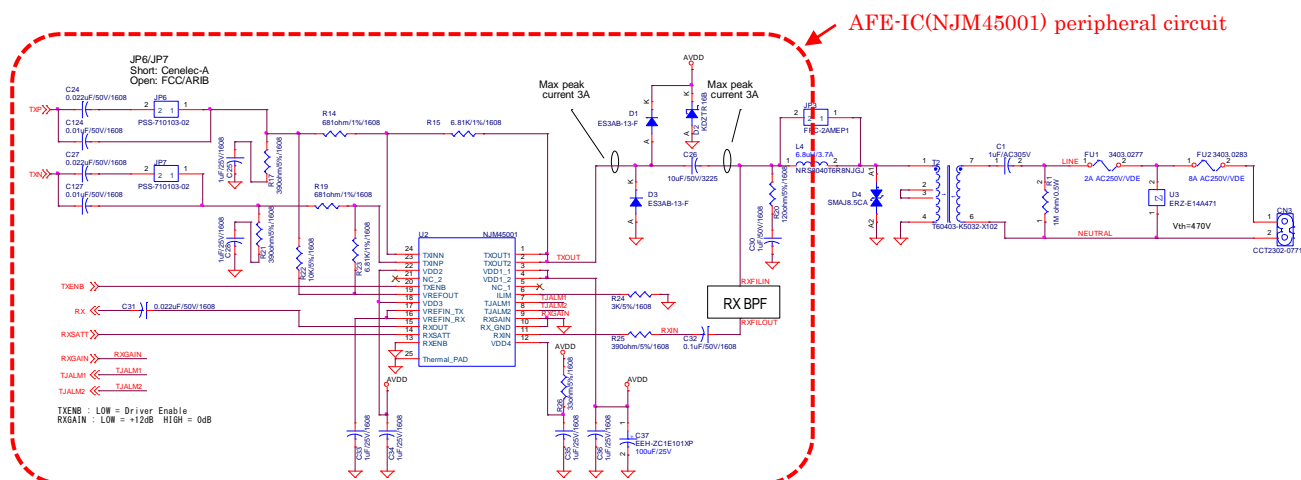

Figure 3-1 Example of connecting the AFE-IC peripheral circuit
- Figure 3-1 shows an example of connecting the AFE-IC peripheral circuit.